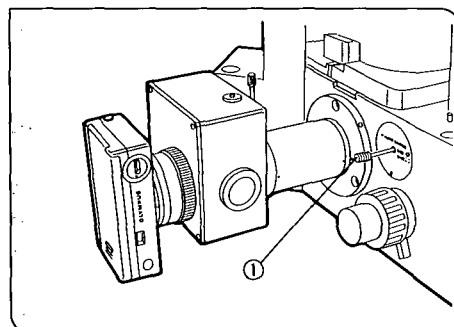

Fig. 106
(Figs. 106, 107)
Pull out the photo frame ① to engage the photo mask into the light path for observation. (Fig. 106)